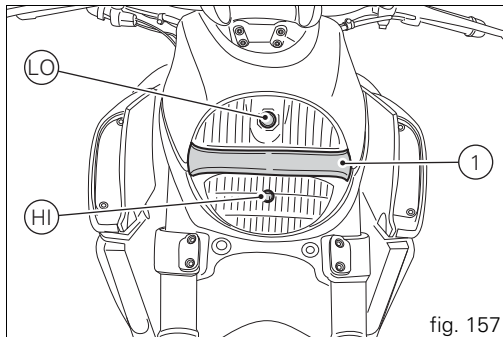

fig. 157
fig. 157 shows the locations of the low beam bulbs (LO), high beam bulbs (HI) and the parking light LED light unit (1).